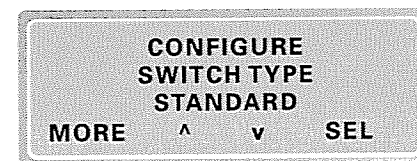

Figure 7
5. If the MPI code was entered correctly, the screen in Fig. 7 should appear. This is the entry point to the ATS Option Menu.